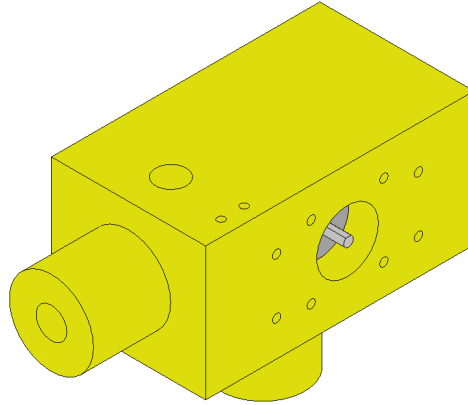

Figure 7: *Y-Axis left driver* with the NEMA23 motor.
1. Attach the NEMA23 motor to the *Y-Axis left driver* element. Use four (4) M4 screws with their respective nuts. Make sure to pass the motor cables through the lateral opening of the element. The assembly is shown on figure 7.